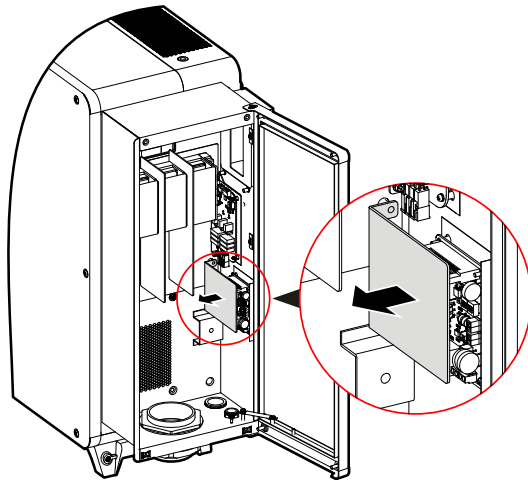

Figure3-46 Dismantle the communication wiring protective plate
- Step 1 Open the cover of the wiring box, and dismantle the communication wiring protective plate, as shown in Figure3-46.